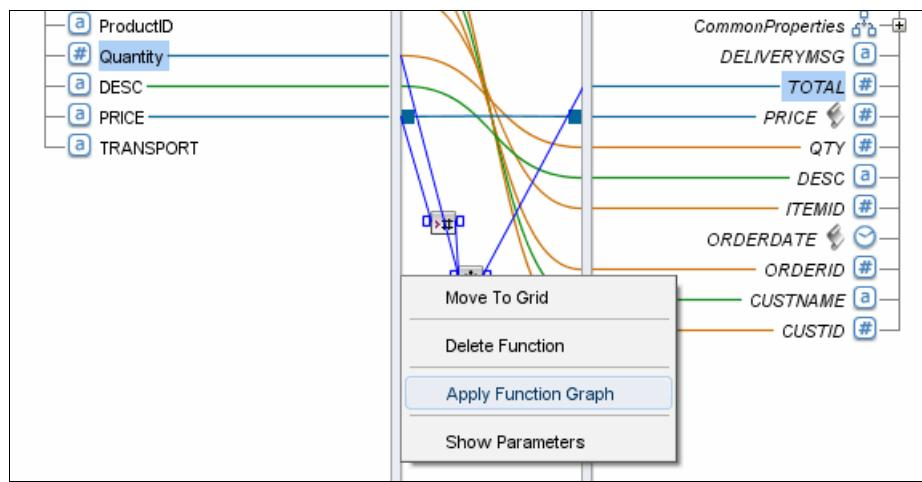

Figure 12-74 Calculating Total
- Right-click the **Number** function, and select **Apply Function Graph**. See Figure 12-74.